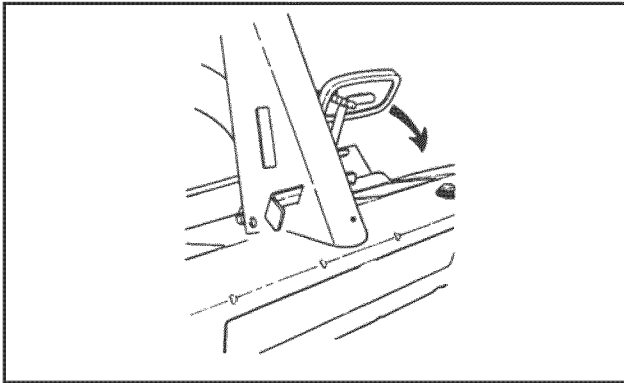

FIGURE 11
1. Fully depress the clutch/brake pedal (Figure 11).